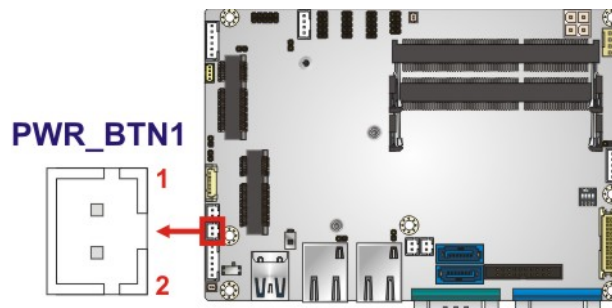

Figure 3-19: Power Button Connector Location
- CN Location: See Figure 3-19